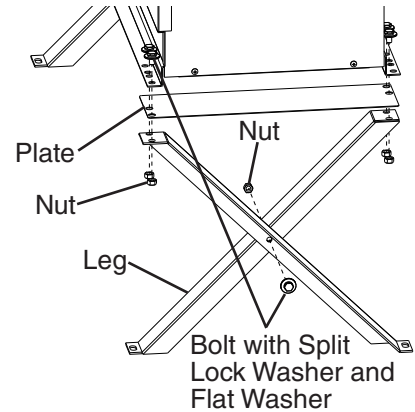

Fig. 11
- 1) Assemble 2 sets of legs using the legs, bolts, and nuts provided. See Fig. 11.